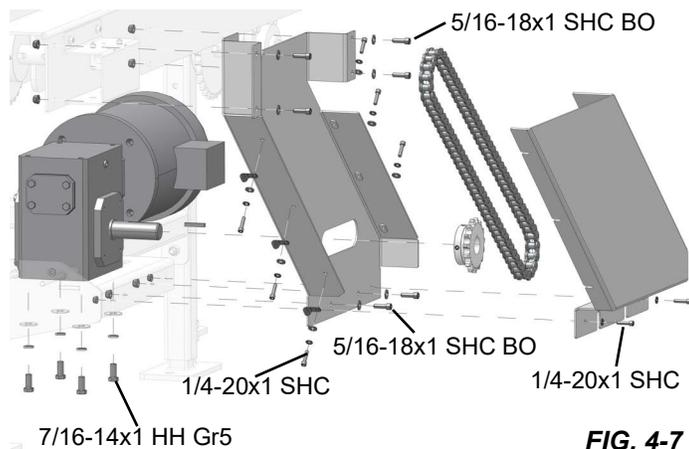

FIG. 4-7
- Bolt down the gear motor to the shelf, but do not tighten securely yet. See FIG. 4-7.
- Bolt the back cover to the frame as shown in FIG. 4-7.